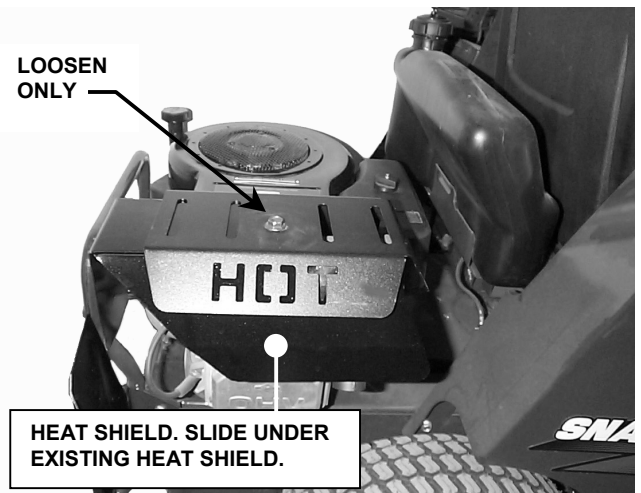

FIGURE 1.3
- A. Loosen bolt on top of muffler heat shield. See Figure 1.3.